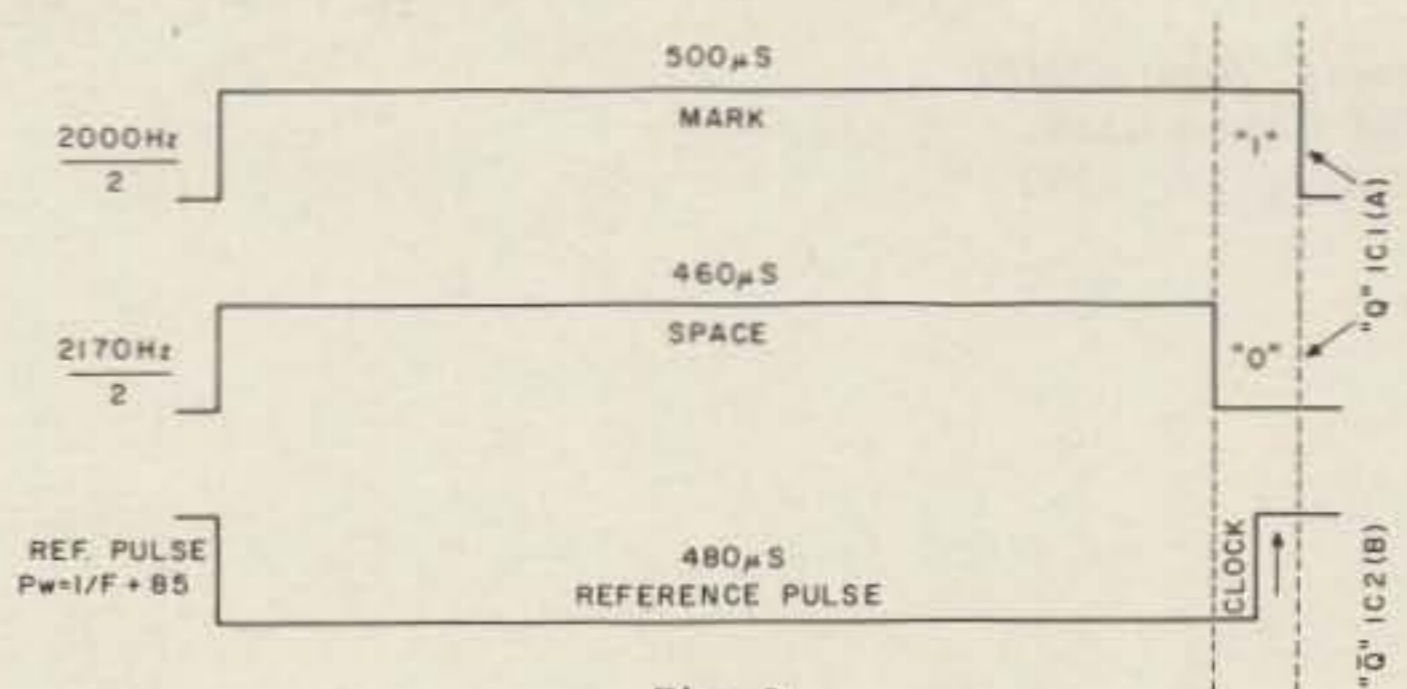

Fig. 2.
If the output pulse length of IC2(B) is set to 480 μ s and input frequencies of 2000 Hz for mark and 2170 Hz for space are used, the "Q" output of IC2(B) will be low for 480 μ s and will go high while "Q" of IC1(A), on mark, is still high. But it will go high after "Q" of IC1(A), on space, goes low. The low-to-high transition of "Q", IC2(B), clocks the "Q" of IC1(A) into "Q" of IC1(B). A "1" will always be clocked in for a mark and a "0" will be clocked in for a space, as shown by Fig. 2.